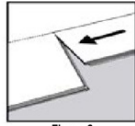

Figure 3
8. Install second board of the second row (same as step 7 above). Angle second board close to end joint of first board. Ensure board lays flat. Figure 3.